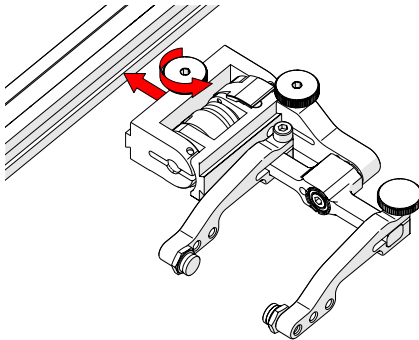

Fig. 114 - Attach to frame bar
1. Rotate the probe holder adjustment knob and attach probe holder to a frame bar (Fig. 114).